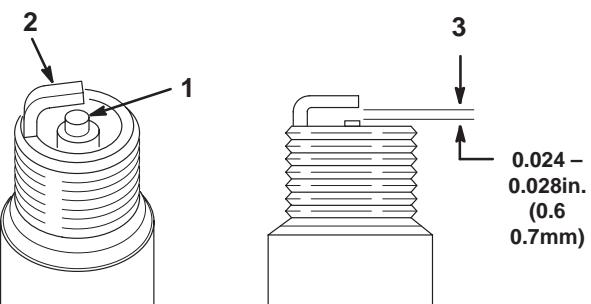

Figure 31
1. Clean the electrodes by scraping or with a wire brush to remove carbon deposits and wetness (Fig. 31).
1. Inspect spark plug (Fig. 31).
2. Check the gap between the center and side electrodes (Fig. 31). Bend the side electrode (Fig. 31) if the gap is not correct.